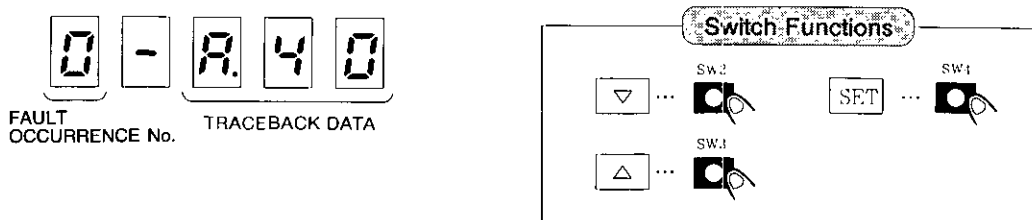

Fig. 8.18 Switch Functions in Fault Traceback Mode
- For the relationship between traceback data and fault descriptions, refer to Table 8.9. The switch functions are indicated in Fig. 8.18.